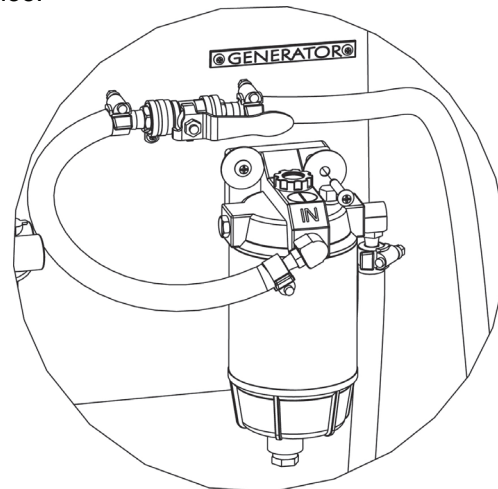

Figure H35: Generator Fuel Valve
6. Open the fuel valve for the generator located in the engine compartment (if applicable). See Figure H35.